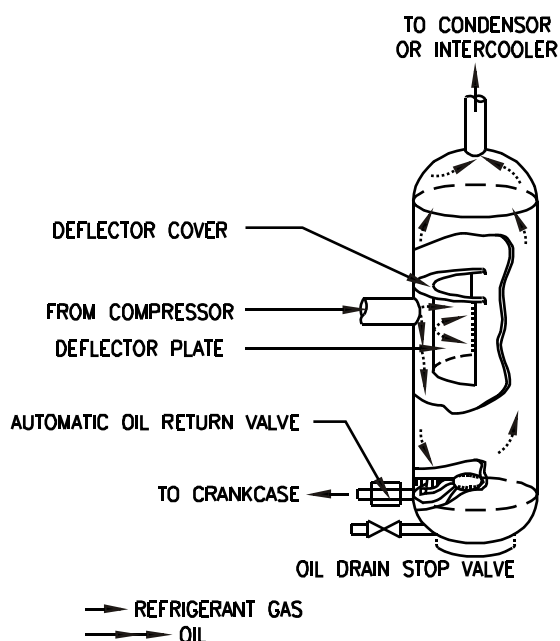

Fig. 7 : Oil Separator
6.8.1. A plant is fitted with an oil separator to prevent the capacity of the system from being reduced by oil which has been carried over with the refrigerant. Particularly at very low temperatures this might also lead to blockade of the system owing to freezing of the oil in the evaporator. The separator is fitted between the compressor and the condenser. The oil separator (see fig 7). Consists of a closed cylinder fitted with a refrigerant inlet and outlet, an oil drain stop valve, an automatic oil return valve with float and a deflector plate. The compressed gas enters the separator and impinges on the deflector plate causing the heavier oil droplets to be deposited on it. The gas diffuses outwards in a radial direction, but is prevented from rising upwards by a baffle plate. The remainder of the oil still present in the gas is deposited upon the separator wall by the centrifugal effect of the gas flow.